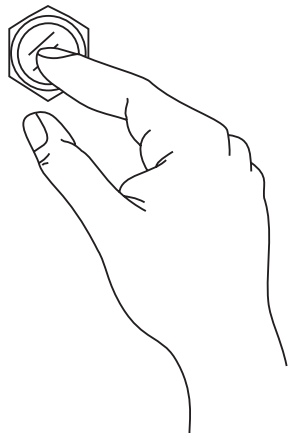

Figure 104. Hour Check Button
1. With the engine stopped (**OFF**), press and hold the **Hour Check button** (Figure 104) located on the control panel.